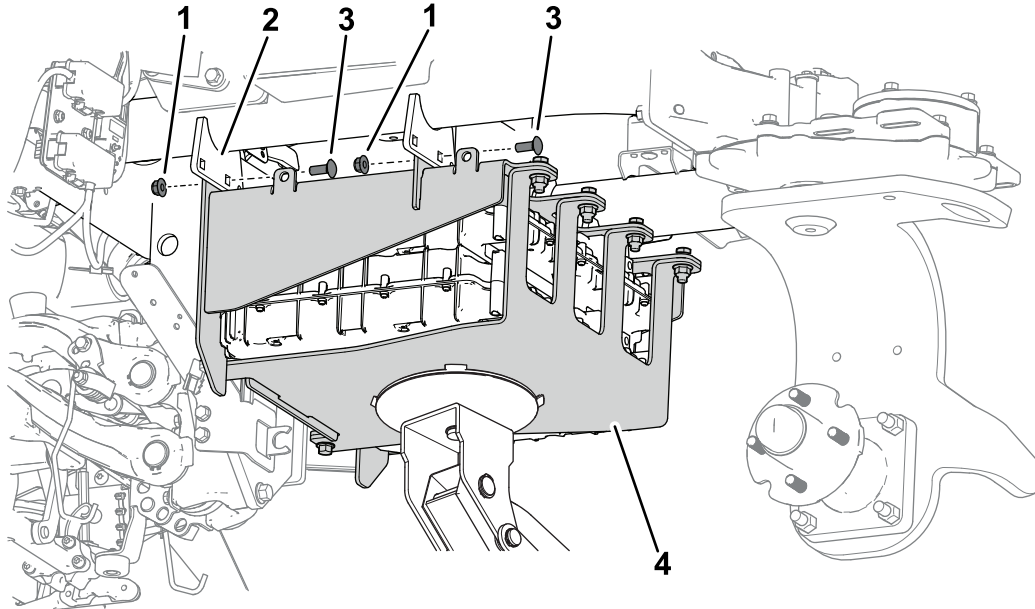

Figure 22
- B. Use 4 carriage bolts (3/8 x 1 inch) and 4 flange nuts (3/8 inch) to secure the battery assembly to the machine frame (Figure 22).